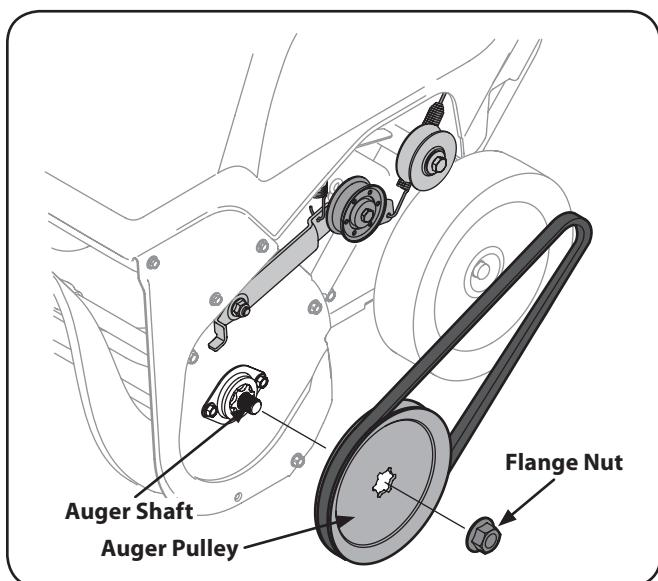

Figure 7-2
- Remove the flange nut that secures the auger pulley to the auger shaft. See Fig. 7-2.